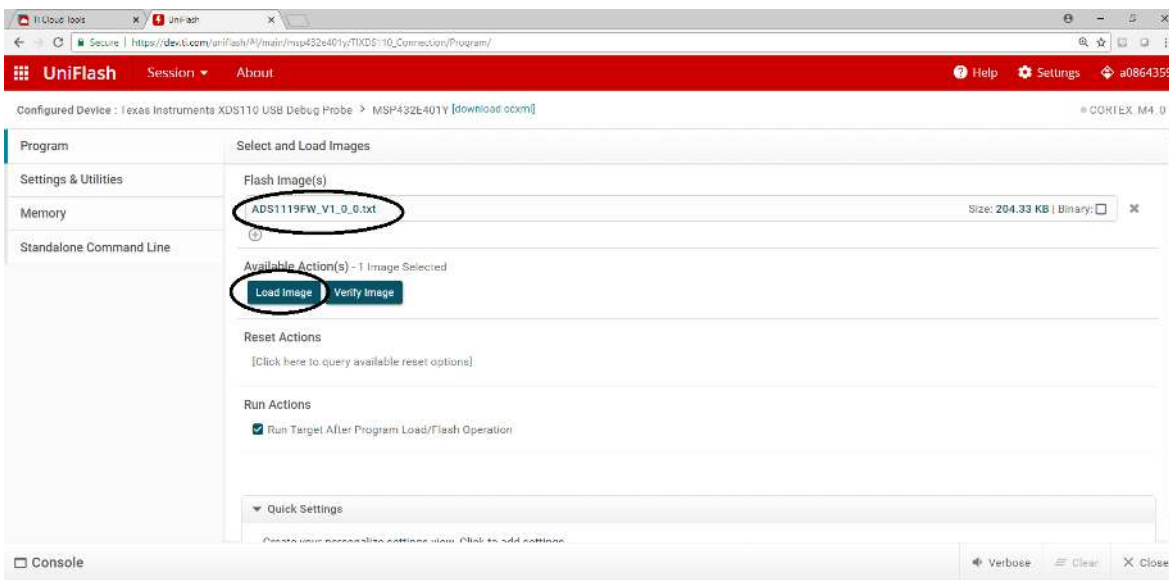

Figure 14. UniFlash: Load Image
- When the flash image file is located, as shown in Figure 14, press the *Load Image* button to start the firmware download.